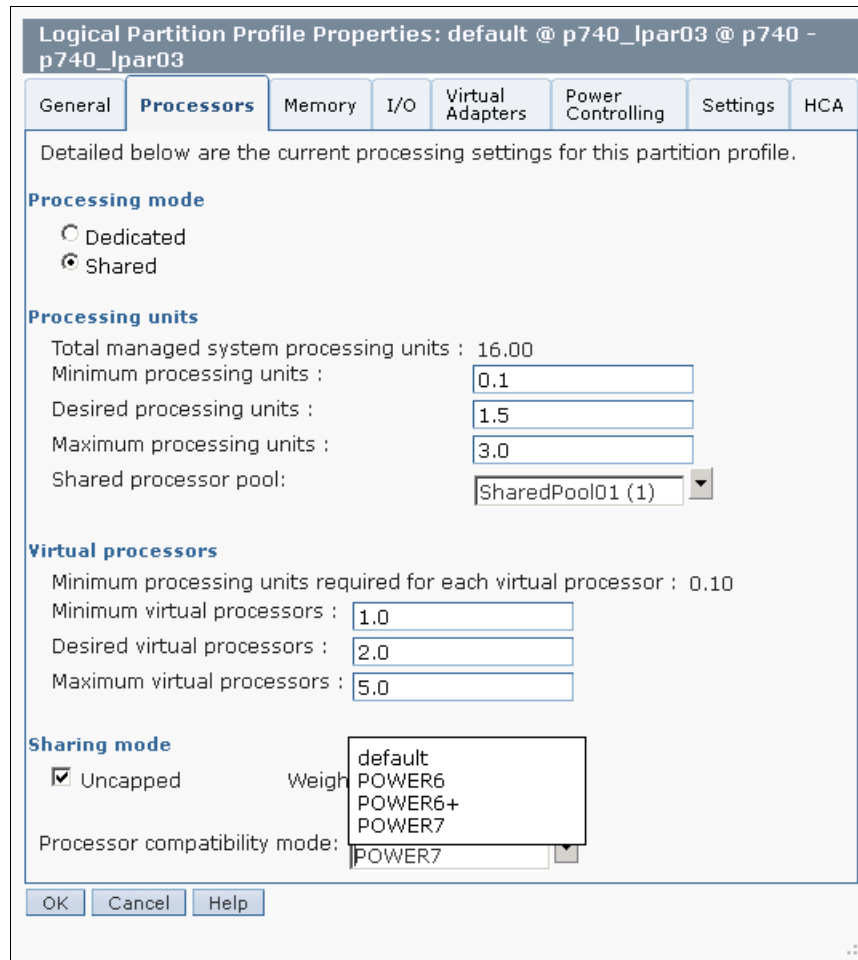

Figure 4-1 Changing POWER processor compatibility mode
2. Click the **Processor** tab. Select the processor compatibility mode in the menu at the bottom of the window as shown in Figure 4-1.